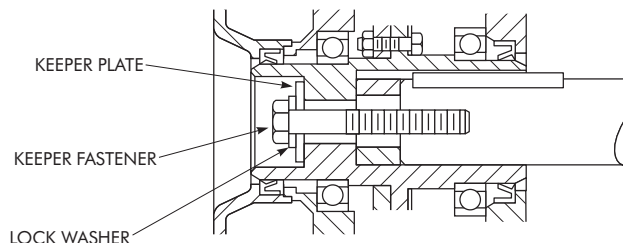

Figure 4
- G. Remove threaded rod and insert keeper plate and fastener with lockwasher, Figure 4. Carefully thread into tapped hole in shaft and tighten to torque specified in Table 2.